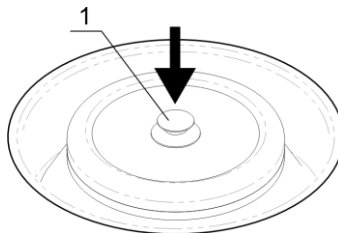

Figure 2. Installing the rotor lid
- Place the rotor lid on the rotor and firmly press the lid holder down around the latch (fig. 2/1).
- 5.7 Place the rotor lid on the rotor and firmly press the lid holder down around the latch (fig. 2/1). Firmly press on the covering lid in two places over both hinges to close it. The clicking sound of the lock and the indication STOP with a lock icon in the lower line of the display (see figure 6) confirm that the lid is closed.